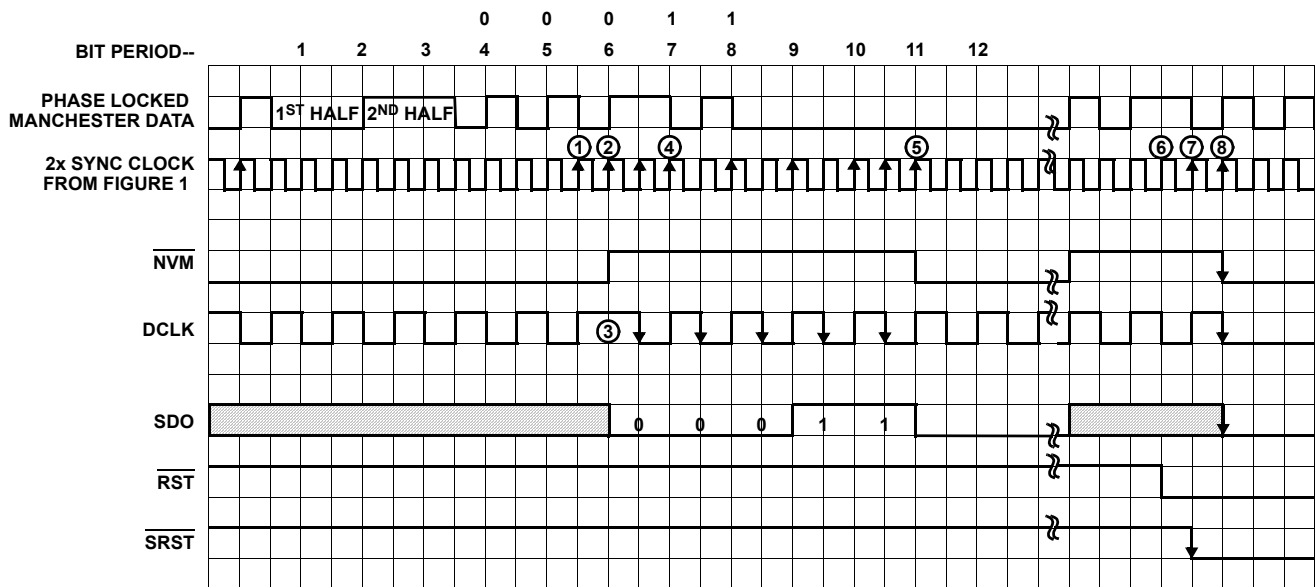

FIGURE 3. DECODER TIMING DIAGRAM
This portion of the circuit may be tested by using the HD-6409 for a standard decoding operation while ensuring there is invalid data present both before and after the valid synchronization sequence and Manchester data. The NVM line should toggle to indicate the presence of the invalid data (refer to Figure 3).
The phase shifter may be tested by phase adjusting the input Manchester data with respect to the DCLK output signal. The DCLK signal should always go high coincident with the NVM recognition of a valid data sequence, or should remain high at this point and become 180° phase shifted. The following DCLK falling edge may then be used for latching the first serial data bit at SDO (refer to Figure 3).
Figure 3 further illustrates the relationships between the various decoder input and output signals. The phase locked Manchester data is shifted into the 10-stage shift register of the sync recognition circuit on every rising edge of the 2x synchronous clock (Note that the 2x clock signal is provided by the DPLL circuit and is continuously being adjusted to match the incoming data). Bit periods 1-5 provide the sync pulse and 2 valid Manchester bits. This data is shifted into sync recognition position at clock edge ①.